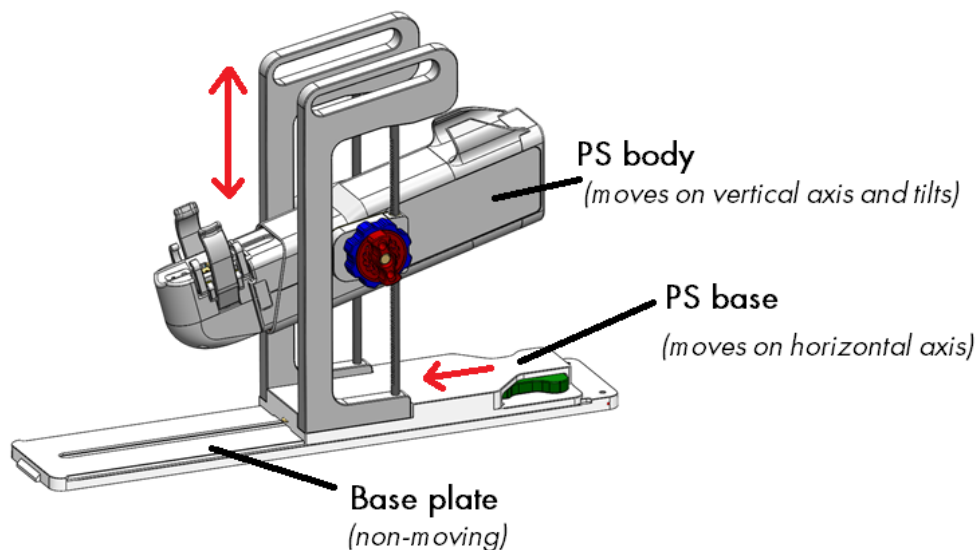

Figure 23: Adjusting the Positioning System
3. **MRI Technologist:** Manually move the PS into position so that the UA gripper aligns with the natural angle of the UA in the patient. Manually adjust the base of the PS forward and backward and up and down, and tilt the linear axis of the PS up and down (Figure 23).
NOTE: The PS adjustment knobs and levers are not coloured as in Figure 23, but are coloured here to help with these instructions.